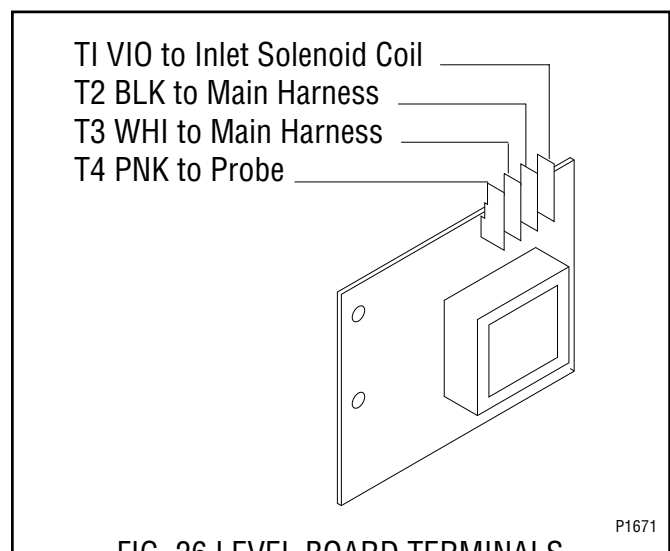

FIG. 26 LEVEL BOARD TERMINALS
5. Refer to Fig. 26 when reconnecting the wires.